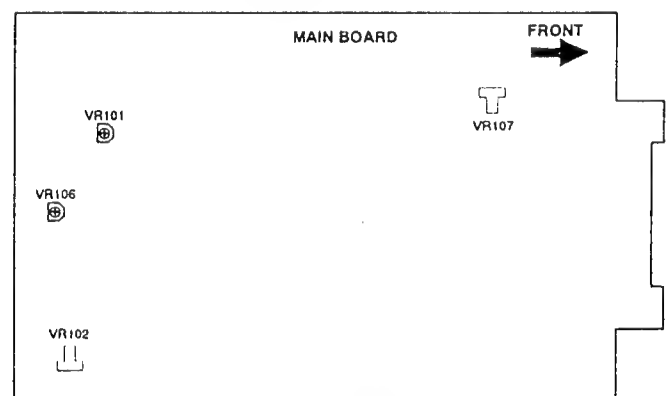

Figure 4-1 Location of on Mainboard
1. Input a cross hatch pattern in primary mode and adjust VR101 on the main board (see figure 4-1 for approximate location) so the high voltage is in the range $26kV \pm 0.1$.